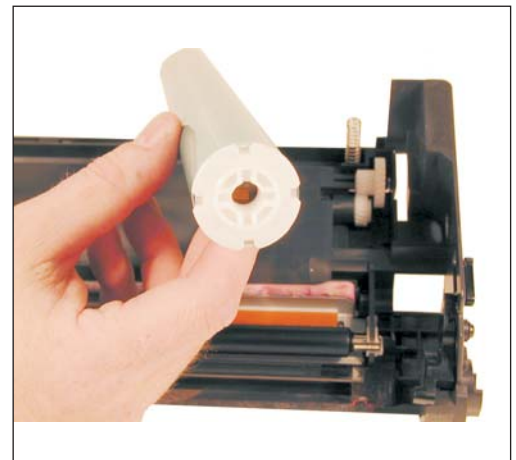

Figure 28
11) Remove the drum. Note that there are different hubs for each side. The Hub with the cross section goes to the gear side of the cartridge. See Figures 28 & 29